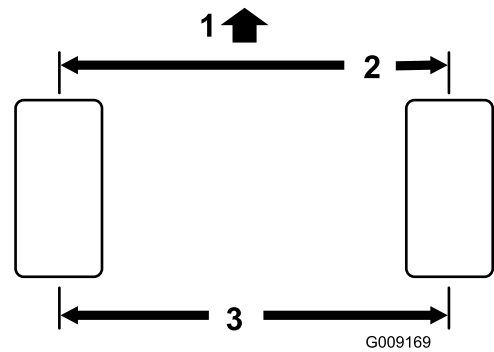

Figure 60
1. Measure the center-to-center distance (at axle height) at the front and rear of the steering tires (Figure 60).